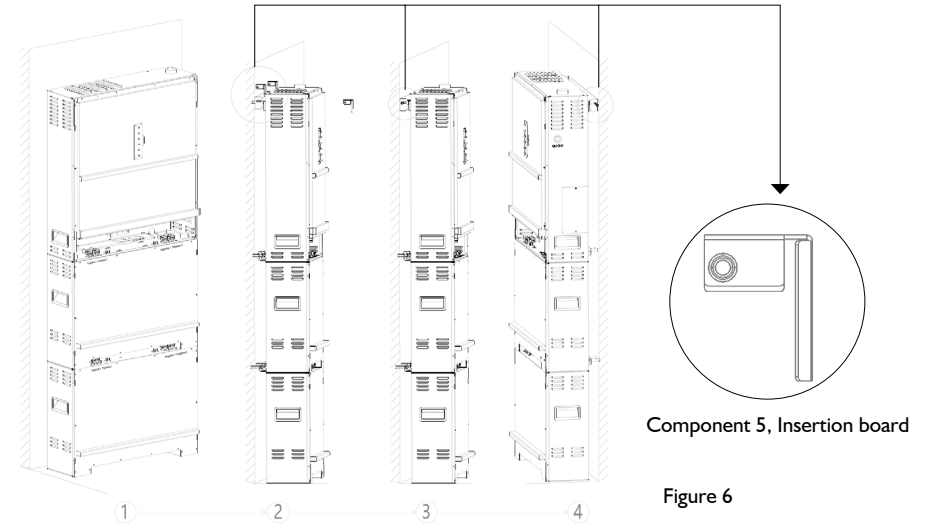

Figure 6
1. Stack inverter box gently on the top of battery, note the limit bottom hole , figure ① shown as above for reference.
2. Plug insertion board to connect inverter box and wall-hanging shelf together. see figure ② .
3. Tighten the M6\*16 screw ensure inverter box is fixed to the wall, see figure ③④ .(Figure 6)